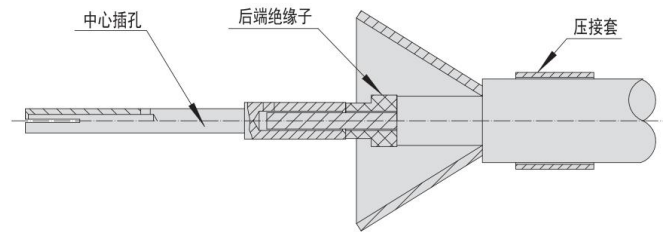

Figure 1.4
④ Assemble the center socket to the cable center conductor according to figure 1.4. The cable center conductor can be seen through the observation hole at the tail of the center socket. Use the 5 gears of crimping tools M22520 / 2-01 to crimp